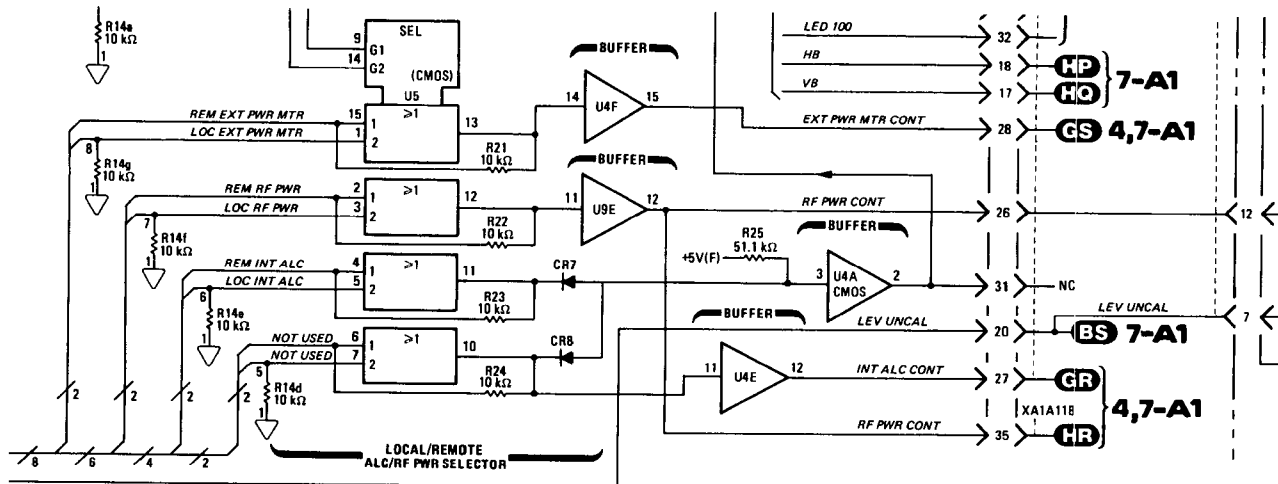

Figure 7-9. P/O Digital Control Schematic Diagram (P/O Change AW)
- Delete the off-page connector 7-A2(HS) and the line labeled EXT REF. Substitute Figure 7-9 for the appropriate part of the schematic. Delete U11 from the Table of Transistor and Integrated Circuit Part Numbers.